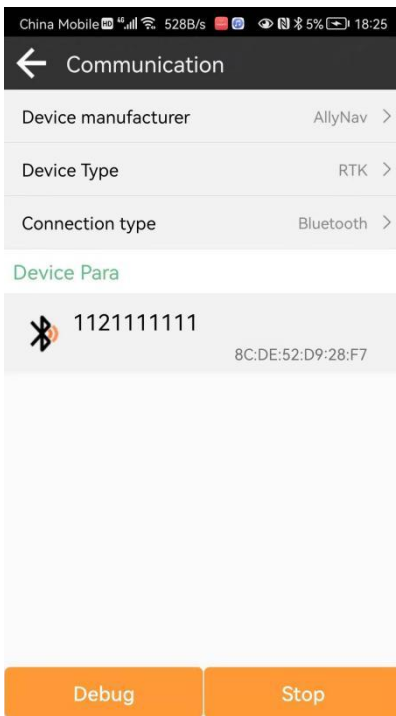

Figure 3.1-1
Click [Device] -> [Communication], as shown in Figure 3.1-1. Select the instrument manufacturer, instrument type and Communication mode, then select the equipment parameters, and click "Connect" to complete the equipment Communication. After the device is successfully connected, it will return directly to the main interface of the software, as shown in Figure 3-2. Enter the communication setting, as shown in Fig. 3.2-2, click Stop the section equipment Communication.
2. Click on the position of the title bar of the software to enter the communication setting function, as shown in Figure 3.1-1.